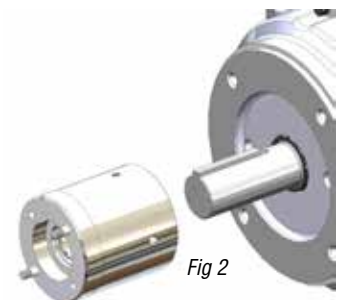

Fig 2
3. Coat the motor shaft with anti-seize paste. Slide the drive shaft adapter (item 8B) onto the motor shaft with the key in the keyway. Slide the adapter until the retaining ring touches the end of the motor shaft. See figure 2.
- i. Install flat washer, lock washer, and bolt (items 18, 19 & 20) into the end of the motor shaft and then tighten to the following torque settings: